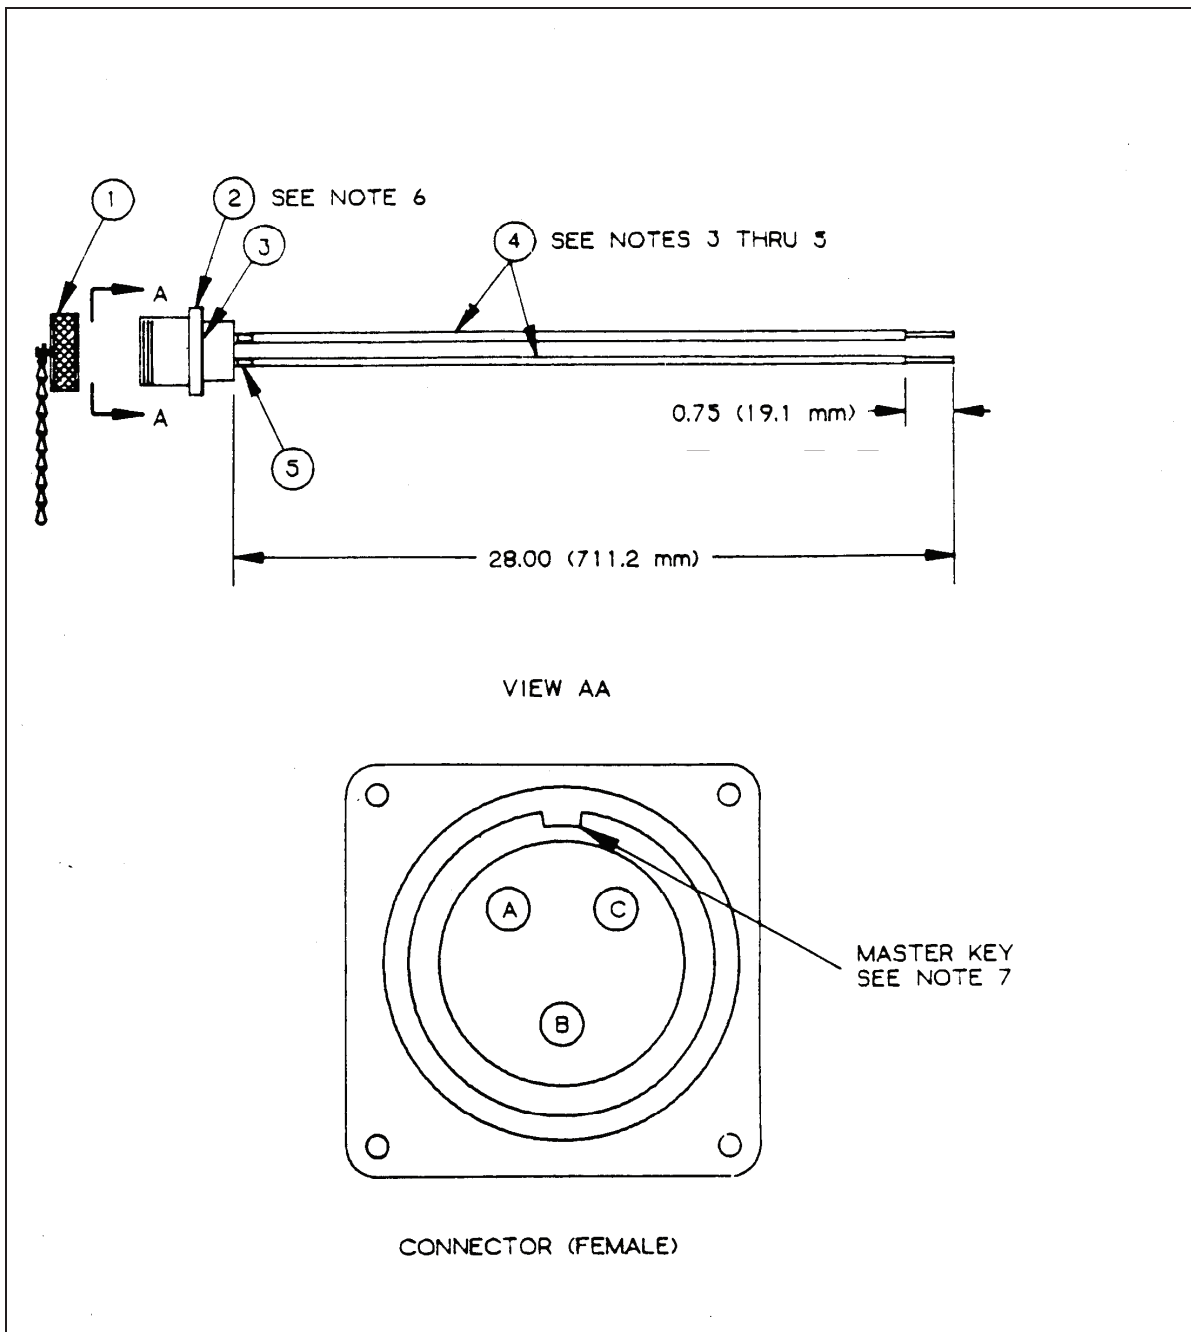

Figure F-14. Distribution Center Output Connector, M100, 20-amp (J7)
Component Legend for Figure F-14
- c. Electrical connector (Figure F-14, Item 2) is furnished with the following: